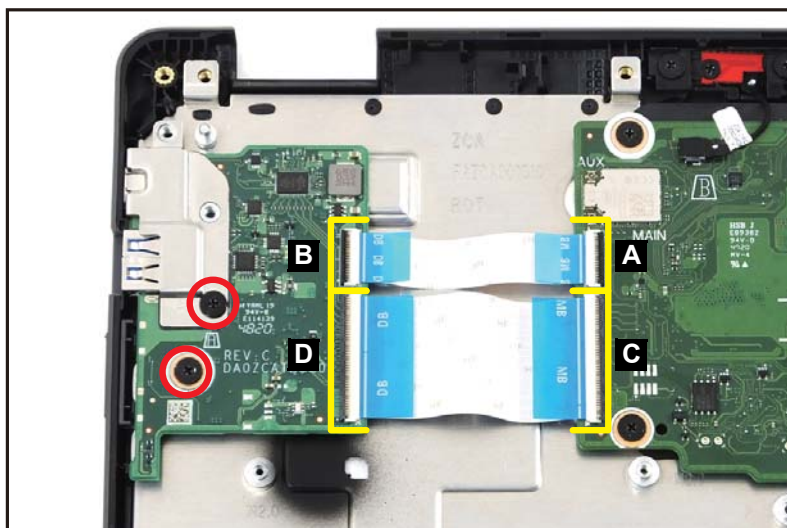

Figure 1-24. USB Board Removal
1. Disconnect the 20-pin USB board FFC from the mainboard connector (A) and the USB board connector (B). Then remove the 20-pin USB board FFC (Figure 1-24).
2. Disconnect the 50-pin USB board FFC from the mainboard connector (C) and the USB board connector (D). Then remove the 50-pin USB board FFC (Figure 1-24).
3. Remove two (2) screws securing the USB board and I/O bracket in place (Figure 1-24).